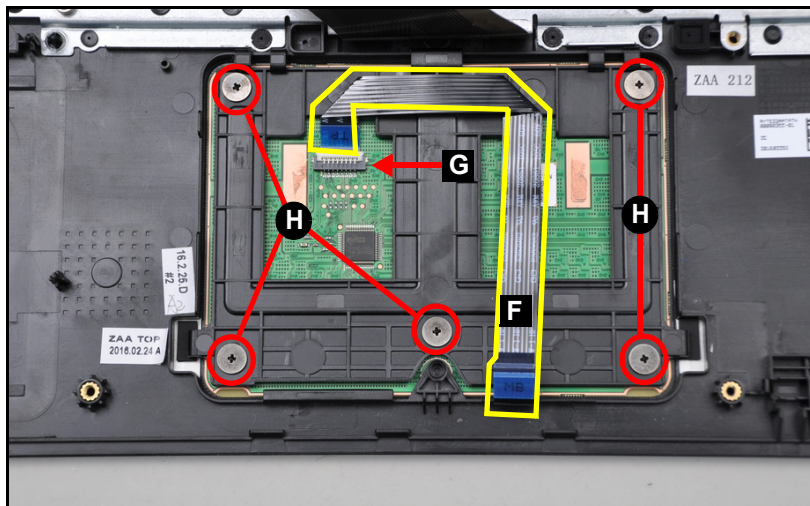

Figure 3-45. Touchpad Module Removal
3. Peel off and remove the touchpad conductive cloth (D) from the touchpad module and the top assembly (E) (Figure 3-45).
4. Disconnect the touchpad FPC (F) from its connector (G) and remove the touchpad FPC (Figure 3-45).
5. Remove five (5) screws (H) securing the touchpad module in place (Figure 3-45).